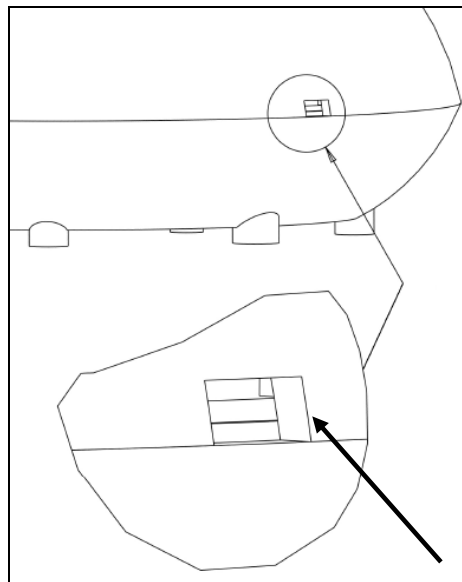

Figure 4 - Insert flathead screwdriver and twist
9. Remove the dome cover from the camera base by lifting the dome cover at the tab indicated in Figure 4, or by inserting a flathead screwdriver into the tab at an upward angle, then gently turning the screwdriver 90° in the slot.